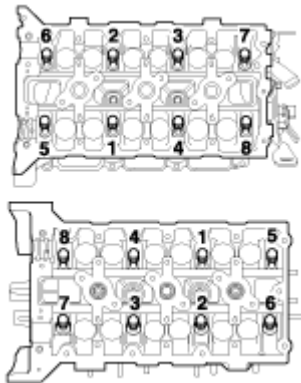

Fig. 45: Identifying Tightening Sequence Of Cylinder Head Bolts
2. Using SST (09221-4A000), install and tighten the cylinder head bolts and plate washers, in several passes, in the sequence shown in **Fig. 45**.